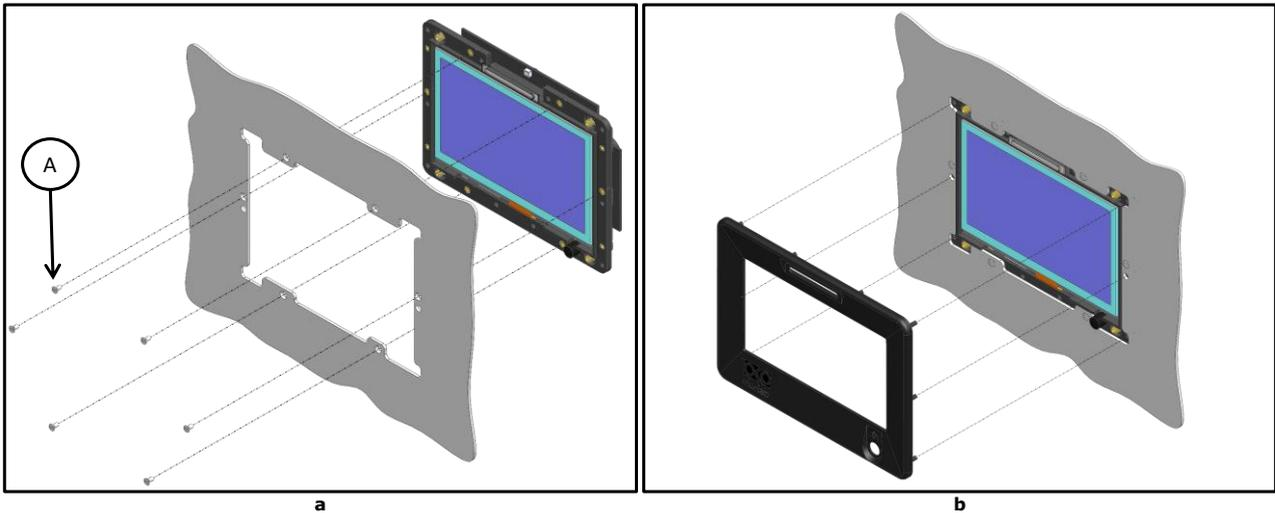

Figure 81. Display installation (a) Display panel mounting; (b) Bezel positioning.
2. Insert the instrument into the opening and fix with screws, TST DIN 963, M2x4, see pointer A in Figure 81(a).
3. Push the bezel on the panel until it engages noticeably, see Figure 81(b).